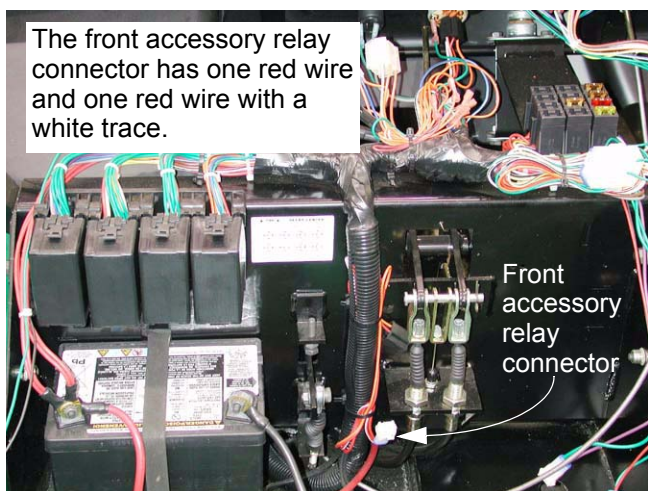

Figure 2.3
- 2.3. Identify the front accessory relay connector. See Figure 2.3.